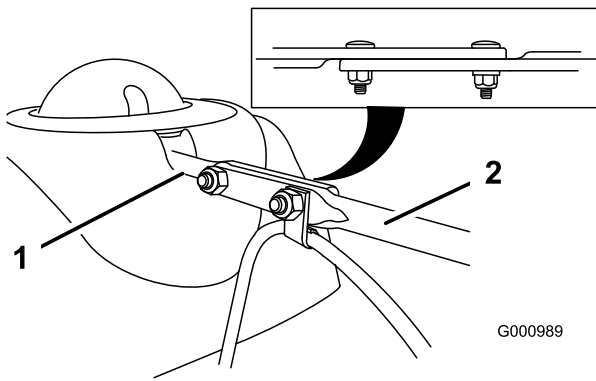

Figure 15
3. Align the flattened back end of the long chute control rod with the flattened front end of the short rod that extends from the control panel so that they nest together (Figure 15).